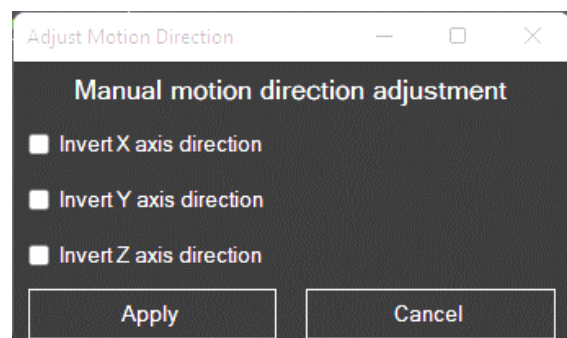

Figure 33 - Manual motion direction setting
- In the popup dialog (Figure 33), check the Invert X/Y/Z axis direction option(s) according to your needs